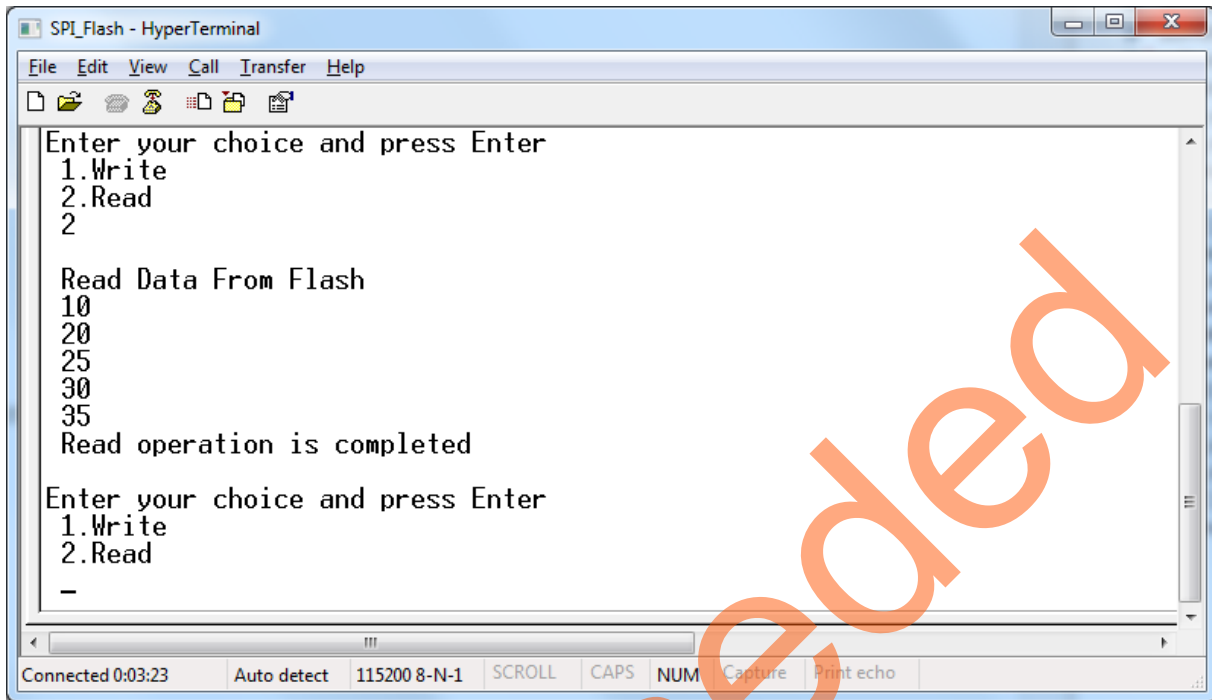

Figure 45 • HyperTerminal Window - Option 2
6. Select option 2 to read data from SPI Flash Memory, as shown in Figure 45.